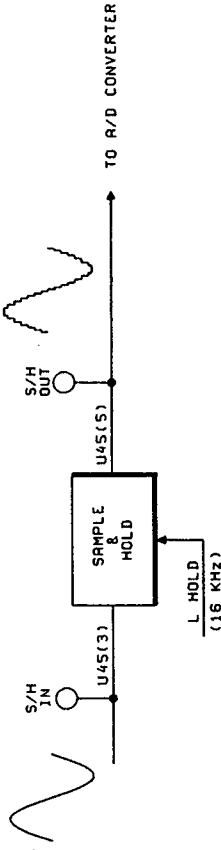

Figure A7-1 Sample and Hold Waveforms
A7-15 The sample and hold circuit is contained in U45. Incoming analog signals at U45(3) are sampled at a 16kHz rate by L HOLD to produce a staircase waveform at U45(5), see Figure A7-1. The sampled signal levels are then converted to a digital form everytime a low L CONVERT is applied to the enable input of the A/D Converter U65.
A7-21 The Hold Control Logic comprising U32D and U22B produces L HOLD. This signal allows U45 to hold the sampled incoming signal for 50us in every 62.5us. The cumulative effect of L HOLD on U65 is to produce a staircase waveform as illustrated in Figure A7-1. However only one sample is considered in the Timing Diagram of Figure A7-2.